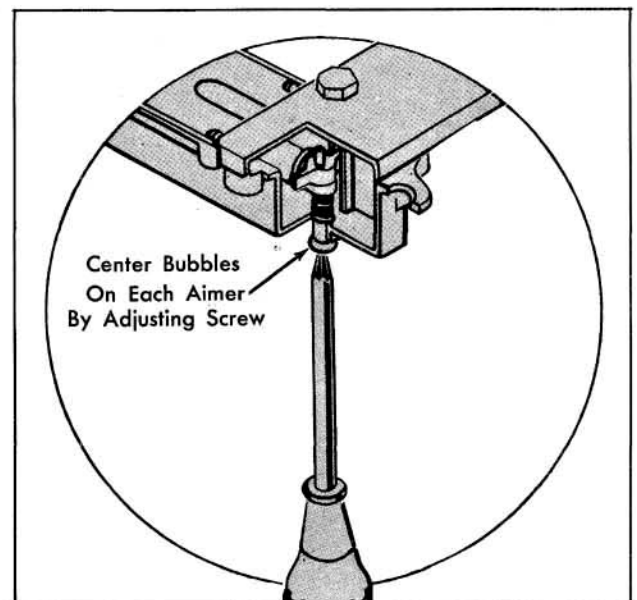

Fig. 13-94 Adjusting Aimer
3. Without moving the car, recalibrate aimers by turning the adjusting screw until bubble is centered. (Fig. 13-94)
2. If the bubble is not centered, adjust the screw on the bottom of the aimer, Fig. 13-94, until the bubble is centered. The aimer is now calibrated vertically.